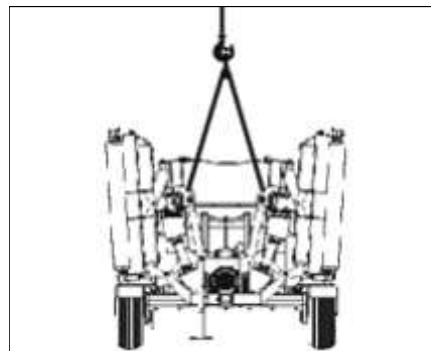

Fig. 60
7. The mower **MUST be suspended from above** using slings, ropes or chains (Fig. 60). Two slings or chains of equal length will be required. The total weight could be up to 1,300kg (2,860 lbs). **Ensure all lifting equipment has the appropriate rating.**